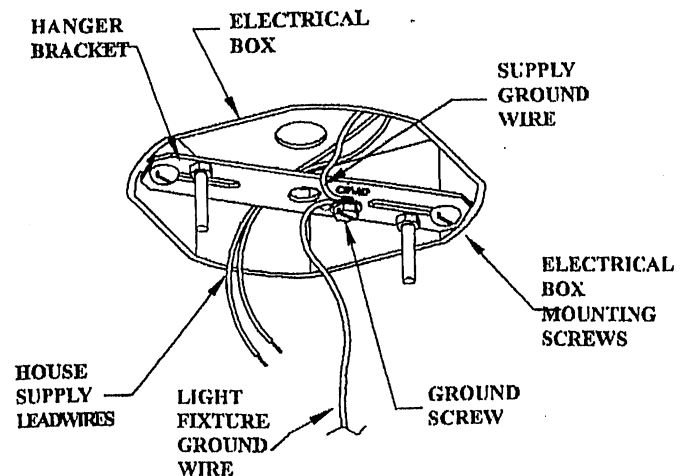

FIGURE 2
4. Using the two screws supplied with the outlet box, mount the hanger bracket to the outlet box, as shown in Figure 2.
**NOTE:** Refer to Figures 2 and 3 for the steps below.